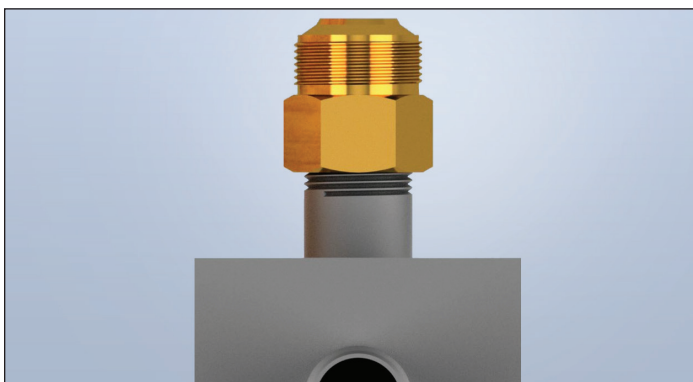

Figure: 1-5
6. Apply pipe dope or thread sealant to the NPT threads of the 90-Degree Stub Out as needed. Tighten the NPT threads of the **TracPipe** System fitting Body onto the NPT threads of the mating 90-Degree Stub Out. Sealants are to be used on the NPT connection only (Figure 1-5)!